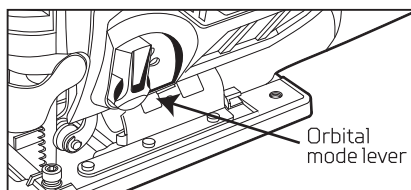

Figure 2
1. The Jigsaw comes with four cutting modes (three cutting settings and 1 straight cutting mode). To change cutting mode, adjust the Orbital Mode Lever [16]. See Figure 2, below.